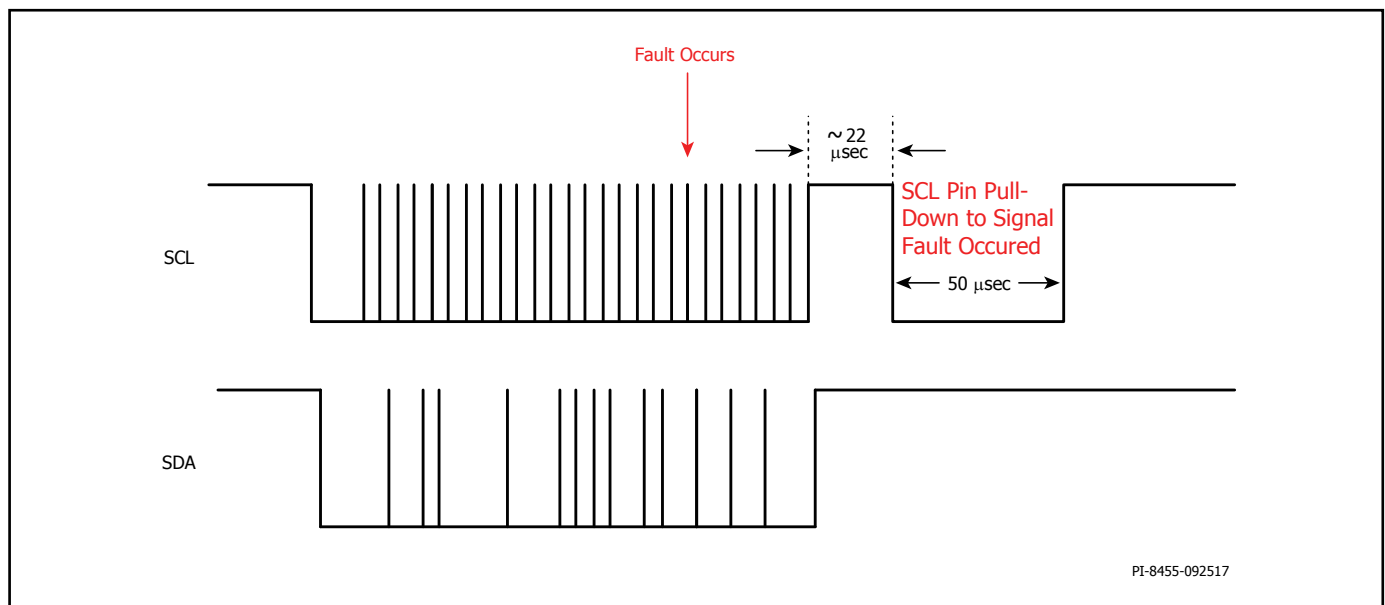

Figure 20. Interrupt Mask During Active I²C Transaction.
2. When the SCL pin is busy (active I²C transaction) (see Figure 20), the fault interrupt will wait for the I²C transaction to be completed, wait $\sim$ 22 μ sec and then pull down the SCL line for 50 μ sec (minimum) then releases it back to HI State.